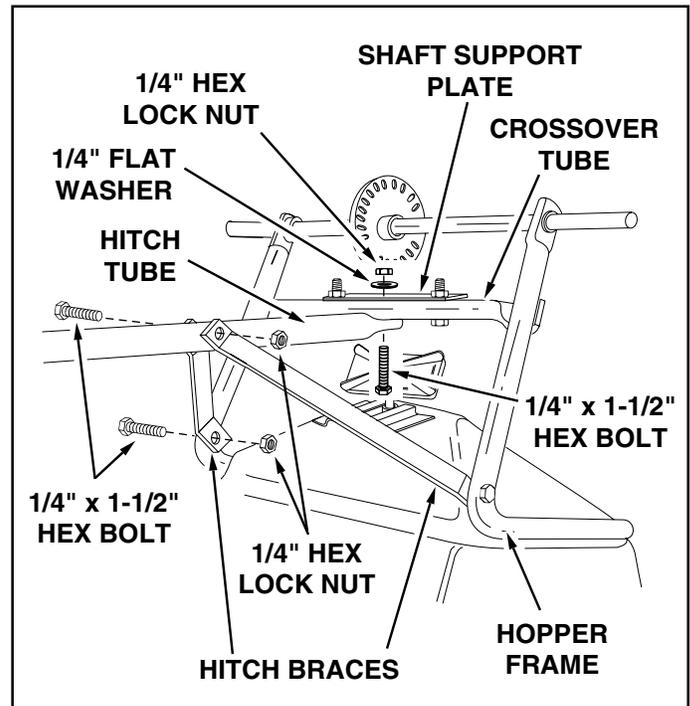

FIGURE 2
4. Assemble the two hitch braces to the inside of the hopper frame, one on each side, using two 1/4" x 1-1/2" hex bolts and two 1/4" hex lock nuts. See figure 2. **Do not tighten at this time.**
6. Align the holes in the ends of the two hitch braces with the nearest hole in the hitch tube. Fasten with a 1/4" x 1-1/2" hex bolt and a 1/4" hex lock nut. See figure 2. **Do not tighten at this time.**